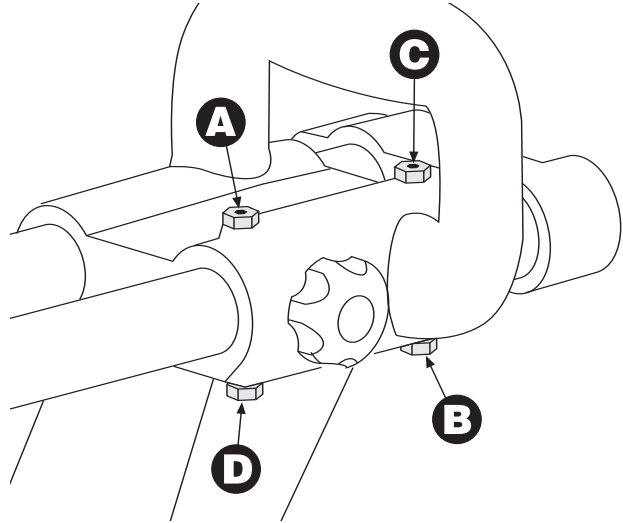
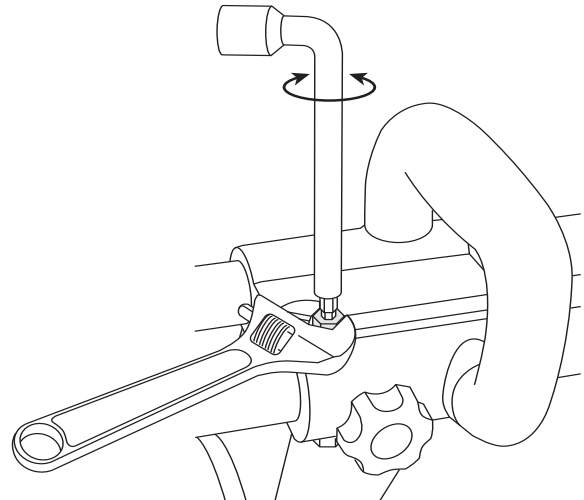

Figure 1. Set Screws
Figure 2. Adjust and Tighten Set Screw
1. Locate the 4 Set Screws (A, B, C, & D) on the Rail Guide Housing. (Figure 1)
2. Loosen the Nut on Set Screw (A) with an adjustable wrench.
3. Tighten or loosen Set Screw (A) with the 4mm end of the bit on the multi-purpose tool until you achieve minimal slide play while maintaining the desired sliding force.
4. After adjusting Set Screw (A), hold Set Screw (A) with a 4mm allen key and tighten the nut with an adjustable wrench without moving the Set Screw. (Figure 2)
5. Complete steps 2-4 with the remaining set screws in order as shown in figure 1.